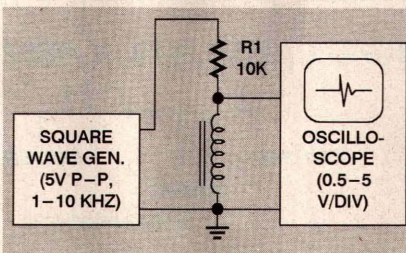

**FIG. 3—USE THIS SET UP** to perform a ringing test on a coil or transformer. The waveform displayed depends on the transformer's inductance and capacitance.
**A** Figure 3 shows a simple circuit for testing inductors and transformers of all types. Apply a square wave across a coil through a 10-kW resistor, and you'll get a distinctive ringing waveform that depends on the inductance and stray capacitance of the coil (or transformer winding). If the coil is open, you'll see the squarewave, unchanged or slightly rounded; if the coil is shorted, the scope will show a flat trace (no signal). Otherwise, the amplitude of the waveform is roughly proportional to the inductance.
**FIG. 3—THE EMISSION CURRENT** of the new Si-MOSFET tip is shown at the top of this figure, while the current from a conventional Si tip is shown at the bottom. The differences in the stability are striking.
Emission-current stability of the single tip was measured using an X-T recorder. As shown in Fig. 3, the new MOSFET tip showed excellent current stability compared to that of a conventional n-type Si tip. The cathode luminescent pattern was also very stable (Fig. 4) and did not change for a long period. That effect has not been observed with any conventional microtips, making the MOSFET tip a promising cold cathode for vacuum microdevices such as the FED.